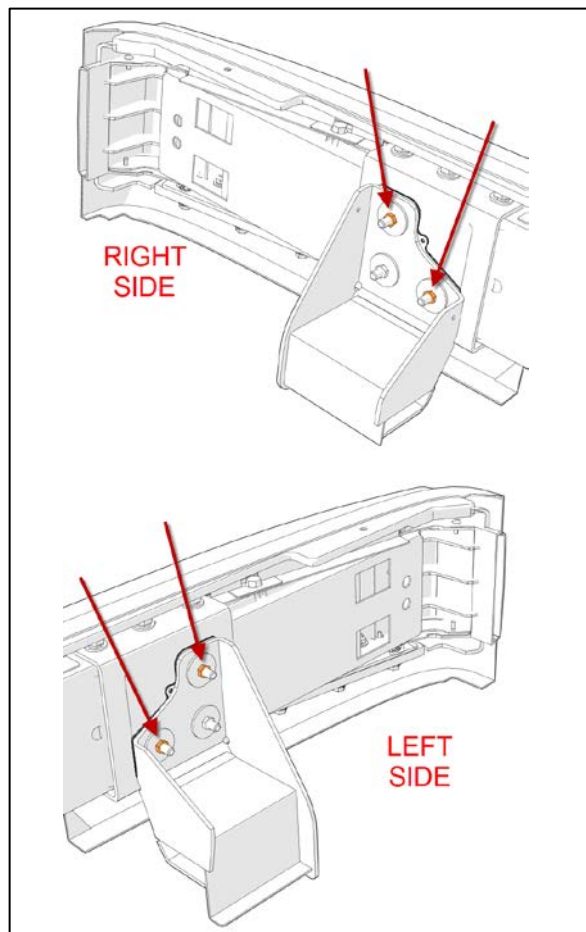

Figure 4
5. Locate the rear bumper mounting nuts on right side and on left side (Figure 4).